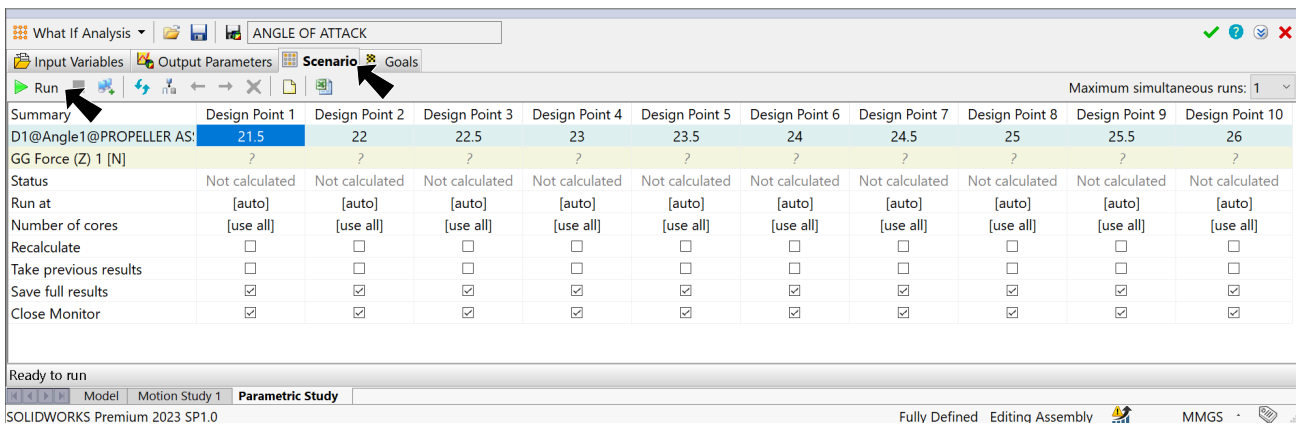

Fig. 9
Step 1. Click the **Scenario** tab  **Scenario**, Fig. 9